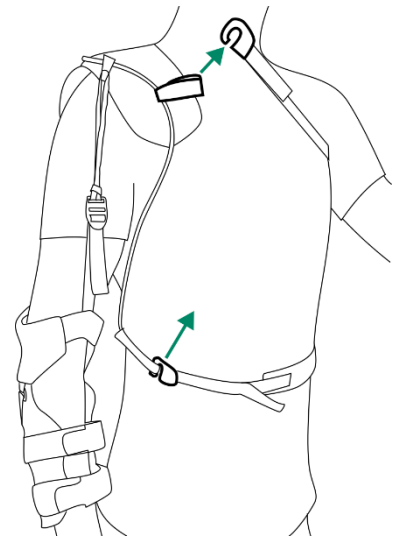

Figure 6
2. Release the upper and lower torso straps by lifting the plastic hooks out of the loops (Fig. 6).